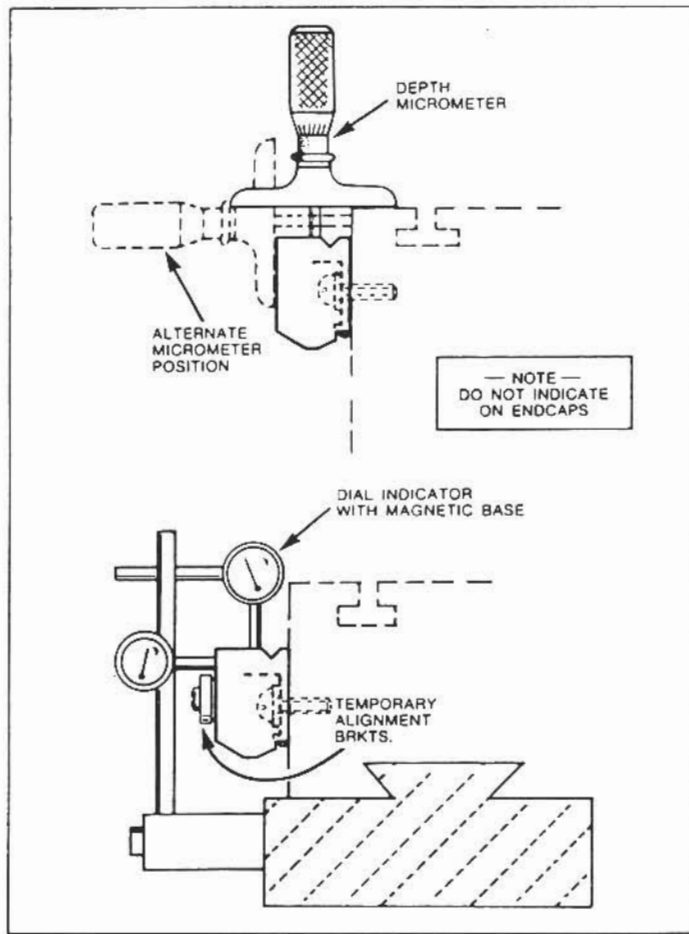

Figure 1-6. Methods of Lining Up Scale Case.
9. Using a depth micrometer or a dial indicator (Figure 1-6), indicate the front surface of the scale case to check for parallelism to table travel to within .010" (.25 mm) TIR overall, and .005"/foot (.13 mm/300 mm) TIR. Indicate the top surface of the scale along 1" (25 mm) sections directly over the scale mounting holes at each end. Align the scale to within .005" (.13 mm) TIR. Securely tighten all mounting screws during the alignment process.
9. Using a depth micrometer or a dial indicator (Figure 1-6), indicate the front surface of the scale case to check for parallelism to saddle travel to within .010" (.25 mm) TIR overall, and .005"/foot (.13 mm/300 mm) TIR. Indicate the top surface of the scale along 1" (25 mm) sections directly over the scale mounting holes at each end. Align the scale to within .005" (.13 mm) TIR. Securely tighten all mounting screws during the alignment process.